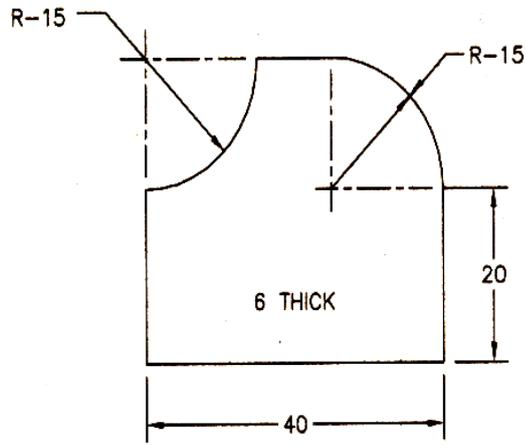

Figure-2
- (b) Write a part program for a machining centre using ISO format for the component shown in figure- 2. ૦૪